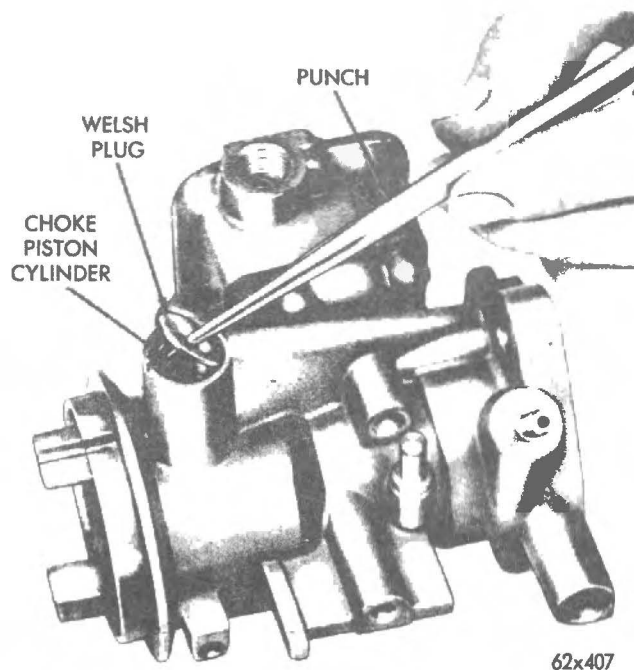

Fig. 22 - Removing choke piston welch plug.
(19) Using a sharp punch, pierce the centre of the choke piston welch plug, then remove plug (Fig. 22).